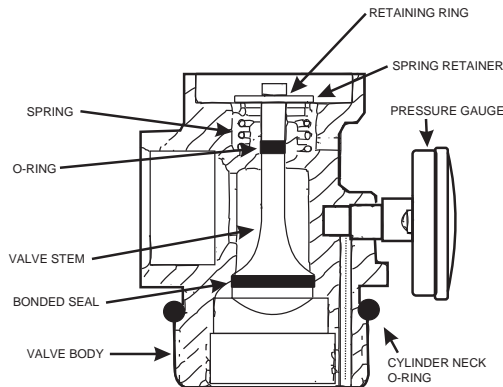

Figure 7-1. Valve Assembly
4. Replace the valve stem (P/N 877343), the valve spring (P/N 217768), the spring retainer (P/N 253299), the retaining ring check (P/N 1849-0004), and the valve stem O-ring (P/N 6435-0006). Put a light coating of Dow Corning No. 55M grease, or equivalent, on the valve stem O-ring. Do not grease the bonded seal on valve check (see Figure 7-1).
5. Replace the valve stem (P/N 877343), the valve spring (P/N 217768), the spring retainer (P/N 253299), the retaining ring check (P/N 1849-0004), and the valve stem O-ring (P/N 6435-0006). Put a light coating of Dow Corning No. 55M grease, or equivalent, on the valve stem O-ring. Do not grease the bonded seal on valve check (see Figure 7-1).